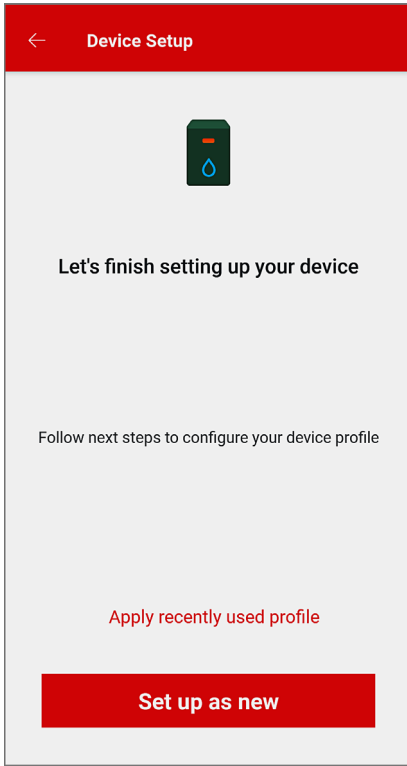

Figure 104. Device Setup as New
- Press the "Set up as new" button to enter new identification and service information. Press the "Apply recently used profile" button to use information already provided. See **Figure 104**.